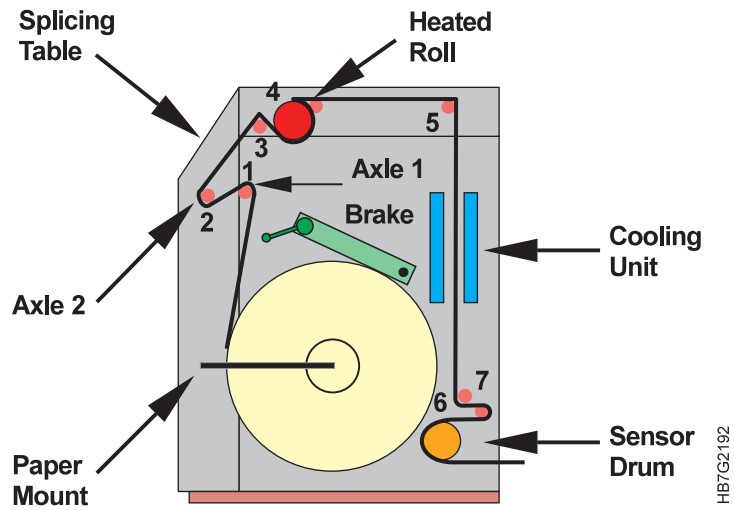
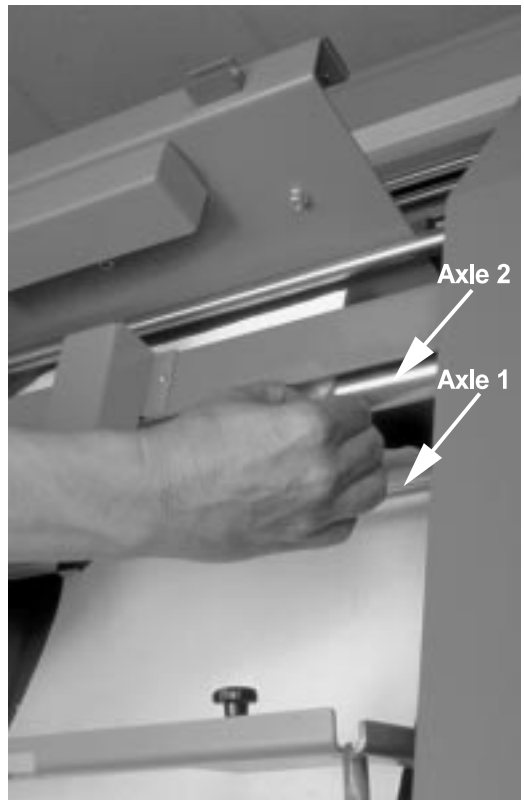

Figure 291. InfoColor 70 Paper Path
Figure 292. Threading the Paper Supply
- Place the end of the paper roll behind axle 1, as shown in Figure 291 on page 356 and Figure 292 on page 356. (The axles are numbered only in the diagrams.)
- Pull the end of the paper roll up and over axle 1, down and under axle 2, and then in an upward direction, as shown in Figure 292.